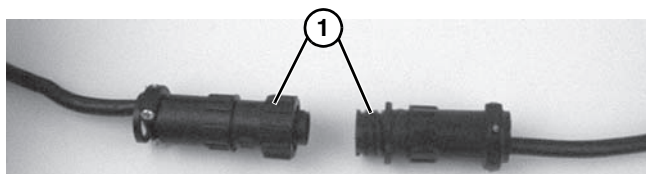

Figure 22
3. For DC variable speed motor, unplug motor cord at disconnect (**Figure 22, item 1**).